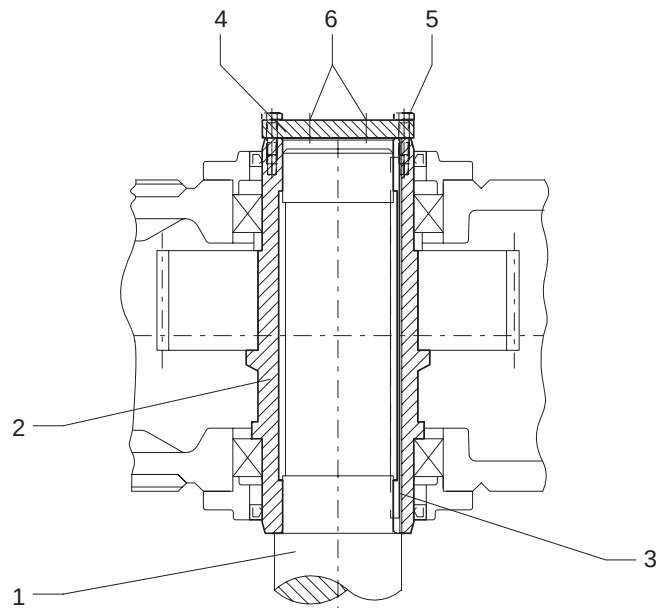

Fig. 3
- If frictional corrosion has formed on the seating surfaces, press rust-releasing or other agent (e.g. with a pump) into the bore cavity to reach the seats. The rust releaser is forced in through the bores in the machine shaft (see fig. 2) or end plate (fig. 3).
- Depending on the facilities available, the gear unit can be forced off the shaft on site using forcing screws in an end plate (see fig. 3), a central threaded spindle or a Lucas hydraulic lifting unit.